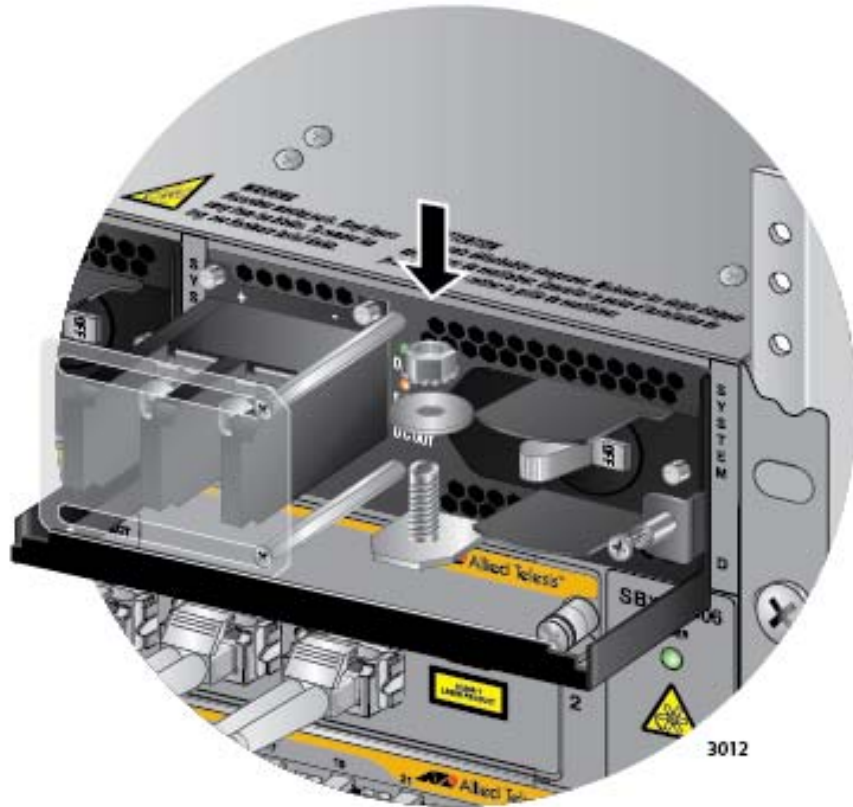

Figure 159. Reinstalling the Nut and Washer on the Grounding Post
10. Reinstall the nut and washer on the grounding post. Refer to Figure 159 on page 251.